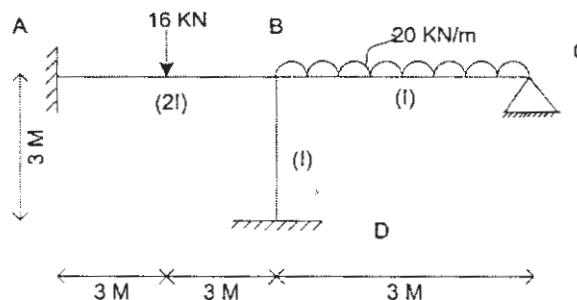

Fig. Q.4
**Q4)** Analyse the portal frame loaded as shown in fig.Q.4. by using MDM. Plot SFD & BMD. [16]